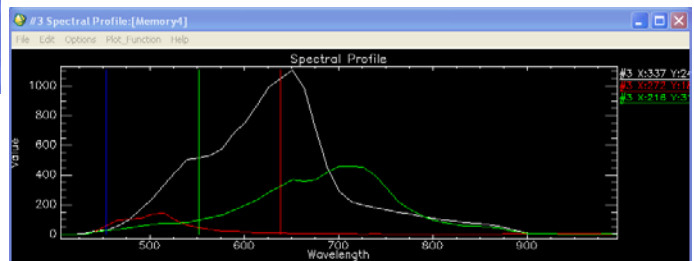

Figure 4. Spectral Profile for Boxcar Filtered Image
- The spectral curves of a single pixel (Z-axis profile) are shown for the original (see Figure 4) and filterer data (see Figure 5).